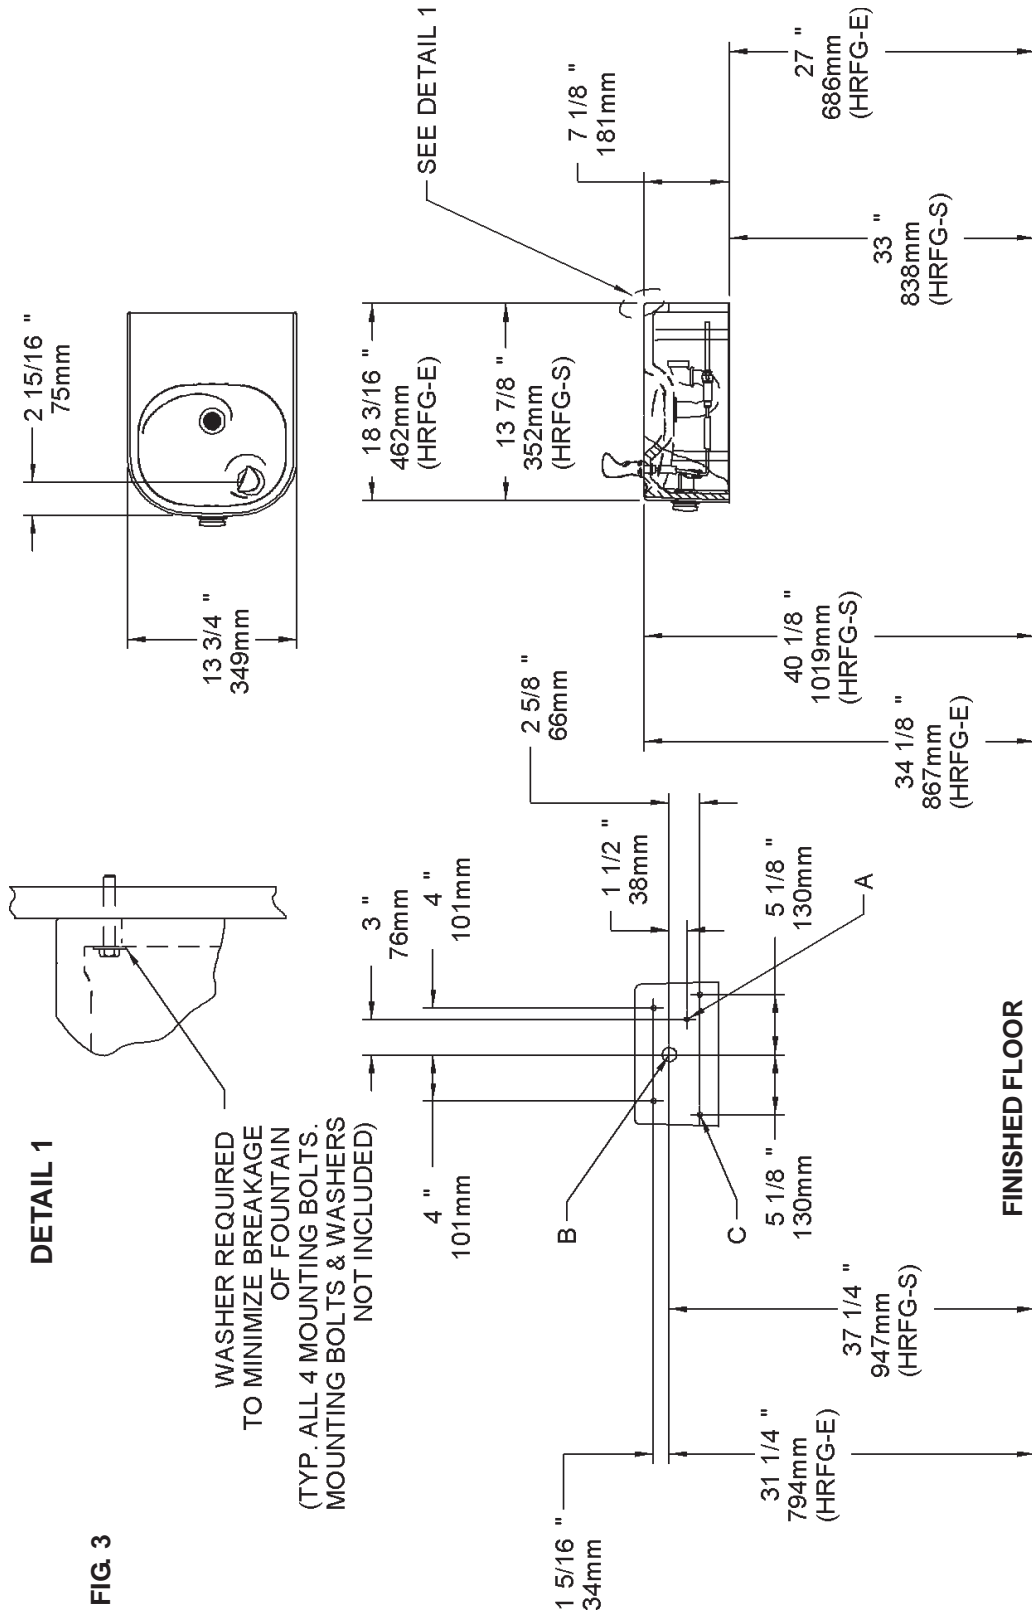

FIG 3
1. **Wall should already be framed for the fountain** using the positioning dimensions shown in Fig. 3. Shown dimensions pertain to installation location (framing must support up to 150 lbs. weight).
2. **Install rough-in plumbing** as shown in Fig. 3. Run supply water inlet line and connect to a service stop (not provided). Turn on supply water and flush thoroughly. Close water supply.
3. **Remove bottom access panel** from fountain basin and save the screws. Install the fountain to the back panel and wall using (4) 5/16" bolts and washers (not provided). Bolts should be long enough to securely fasten the fountain to the wall. Tighten securely, but do not over tighten. Over tightening will crack the Marblyte Fountain.
4. **Remove elbow from end of p-trap** (item 1) and attach it to drain tube. Re-attach elbow to p-trap and cut waste tube to required length using plumbing hardware and trap as guide.